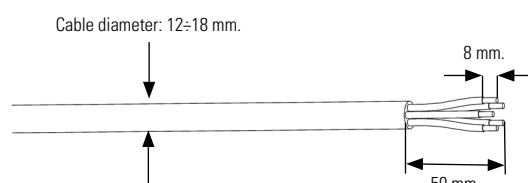

Fig. 37. Stripping the AC cable.
3. Remove the insulation sleeve from the AC bundle by about 50 mm, and remove the insulation from the end of cables L1, L2, L3/PE/N by about 8 mm, as shown in Fig. 37.